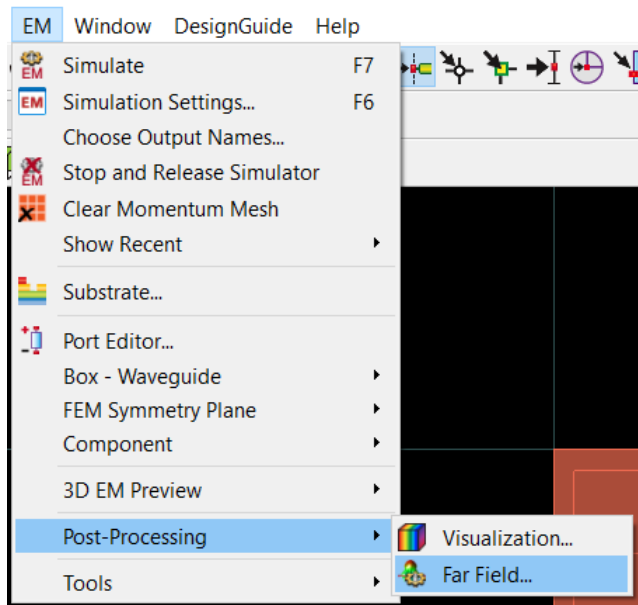

Figure 33. Opening the far field display
1. For the far field antenna pattern, go to **EM > Post Processing > Far Field**. This is shown in Figure 33. The visualization will open in another window.